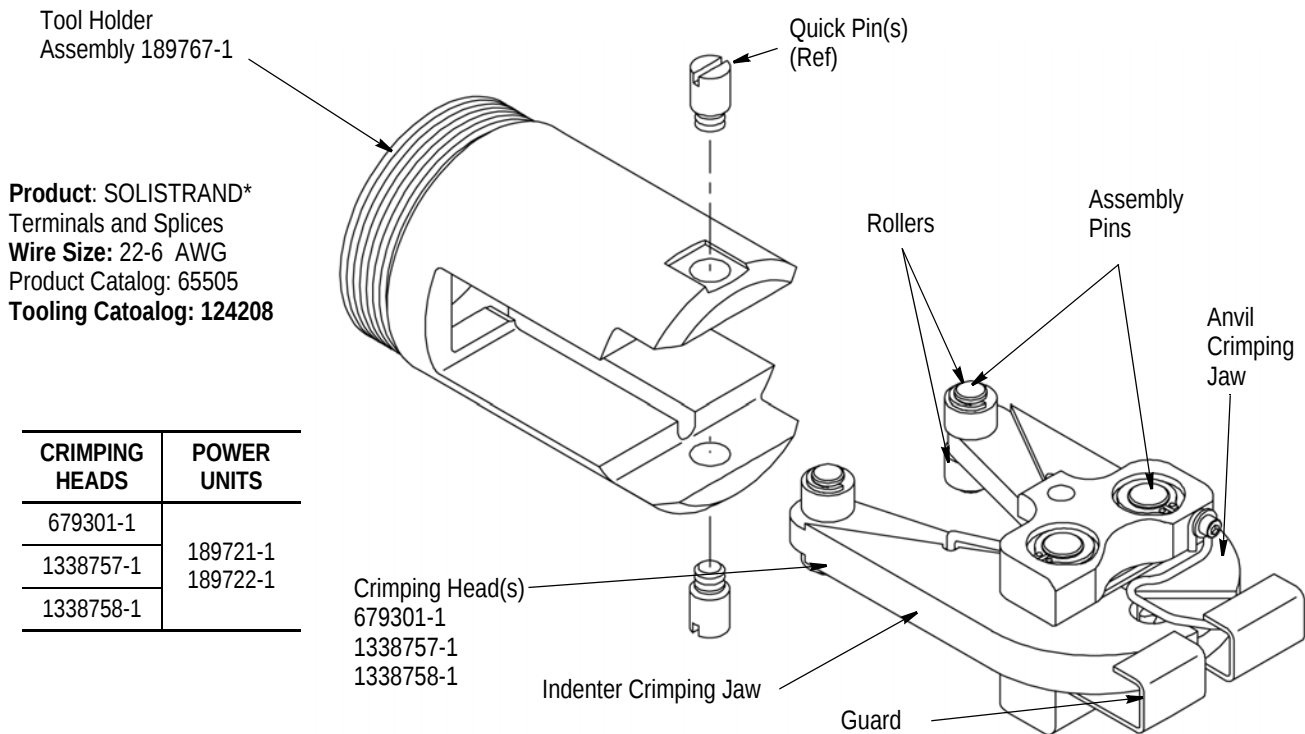

Figure 1
Pneumatic Crimping Heads 679301-1, 1338757-1, and 1338758-1 are designed to crimp SOLISTRAND terminals and splices on solid or stranded copper wire. See Figure 2. The crimping head is used with 626 Pneumatic Tooling Assemblies. Figure 1 shows the tool holder assembly, and list the power units for the crimping heads.
This instruction sheet provides recommended procedures for wire preparation, crimp head installation, crimping, and maintenance and inspection. For information concerning tool setup and operation, refer to the customer manual packaged with the appropriate tool. Product specifications and part numbers are available in TE Catalogs. See Figure 1.
2. Insert crimping head into tool holder as shown in Figure 1.